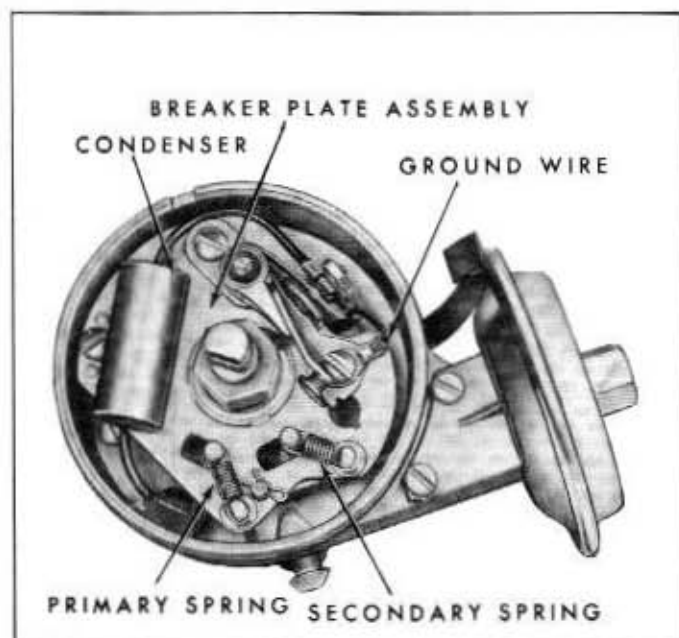

Fig. 9-68—Breaker Plate Installation—(60C-7725)
5. The breaker plate is shown installed in figure 9-68. Position a new breaker point assembly on the breaker plate. Be sure the pivot pin enters the hole in the breaker plate.